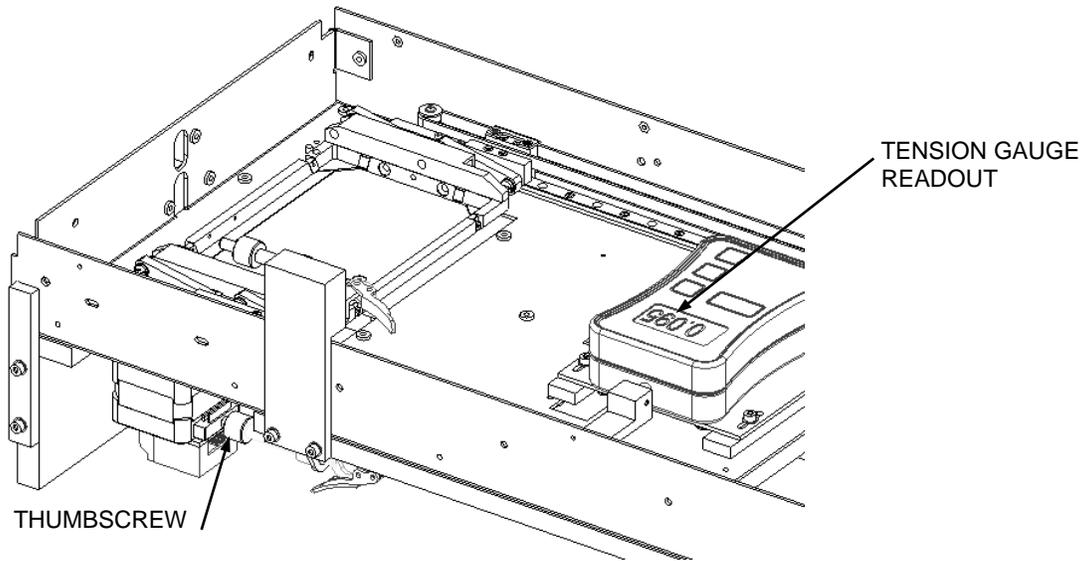
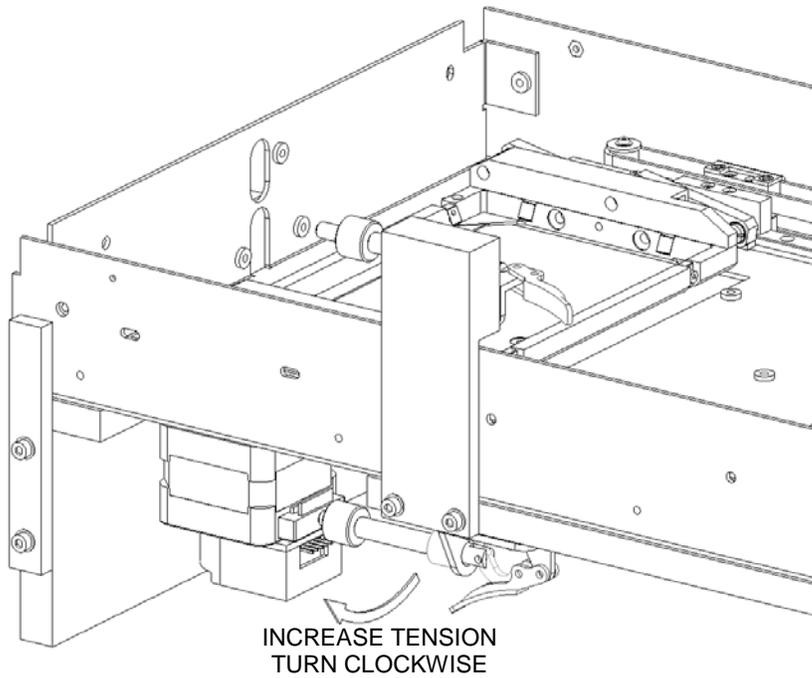

Figure 12-61: Tension Setting Thumbscrew
Figure 12-62: Setting the Tension
8. To set the working tension, rotate the Thumbscrew on the Toggle Clamp clockwise so that it pushes the Motor towards the rear of the Chassis (Figure 12-61). When the Gauge reads between 0.090 Kg and 0.100 Kg the belt tension is correct (target 0.095 Kg), tighten all four screws to secure the Motor. Unscrew the thumbscrew and check the tension is still correct. Open the Toggle Clamp by flipping the lever then remove the Force Gauge assembly (Figure 12-62).